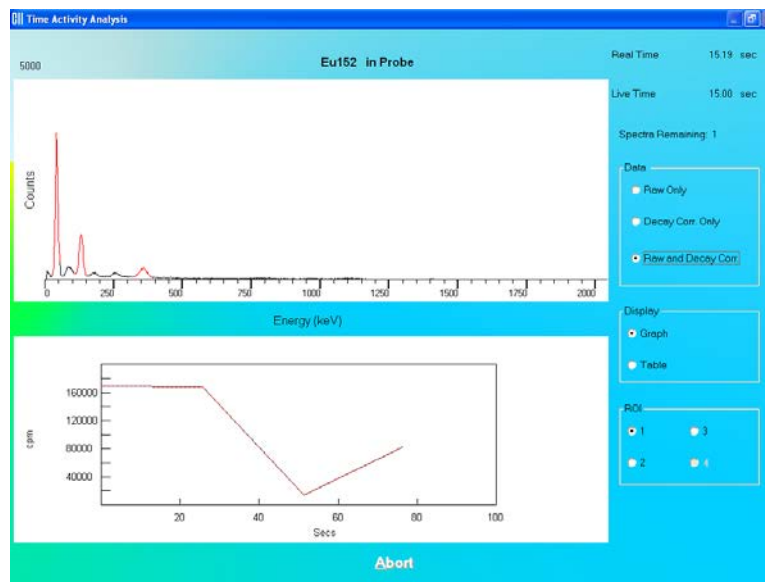

Figure 12-7
3. Place the isotope source in the designated detector and click the **OK** button. As counting progresses, Real Time and Live Time for each repetition is displayed in the upper right of the screen as shown in Figure 12-7. The number of measurement repetitions (spectra) remaining is displayed below the Live time.